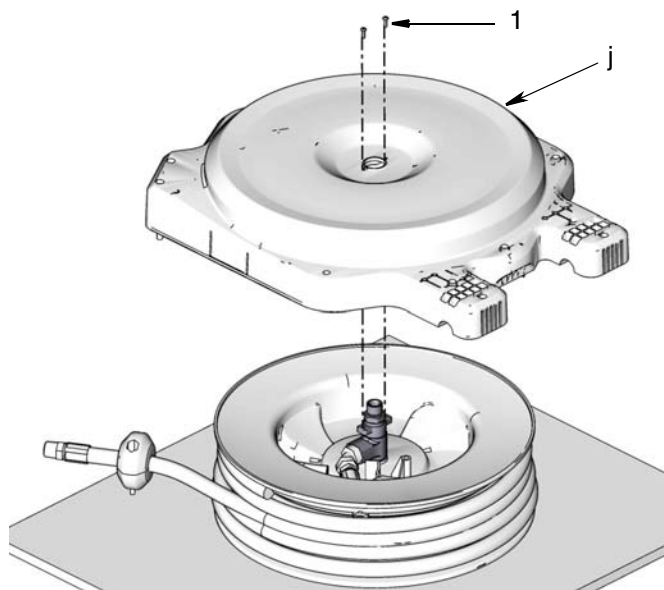

FIG. 20
2. Replace side enclosure (j) over spool using new screws (1) (FIG. 20). Torque to 0.07 - 0.1 N.m (10 - 15 in. pounds).